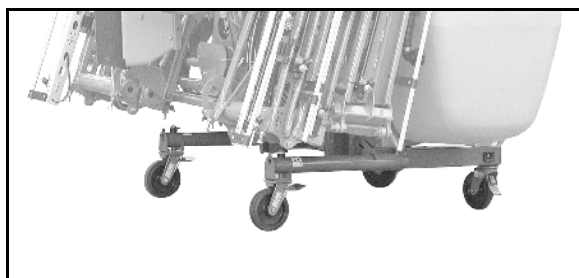

Fig. 8
- Left and right-hand parking supports (Fig. 8) to prevent the machine from falling over when parked